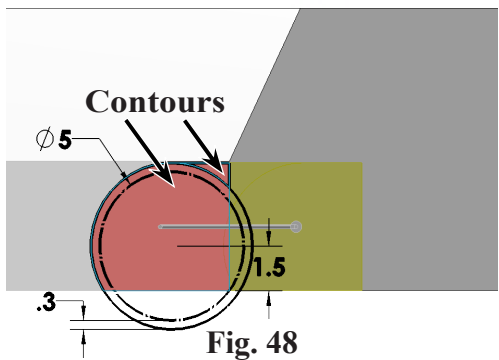

Fig. 48
Step 12. Rotate view to **rear hinge cut**, Fig. 48.
click the **two contours**, Fig. 48